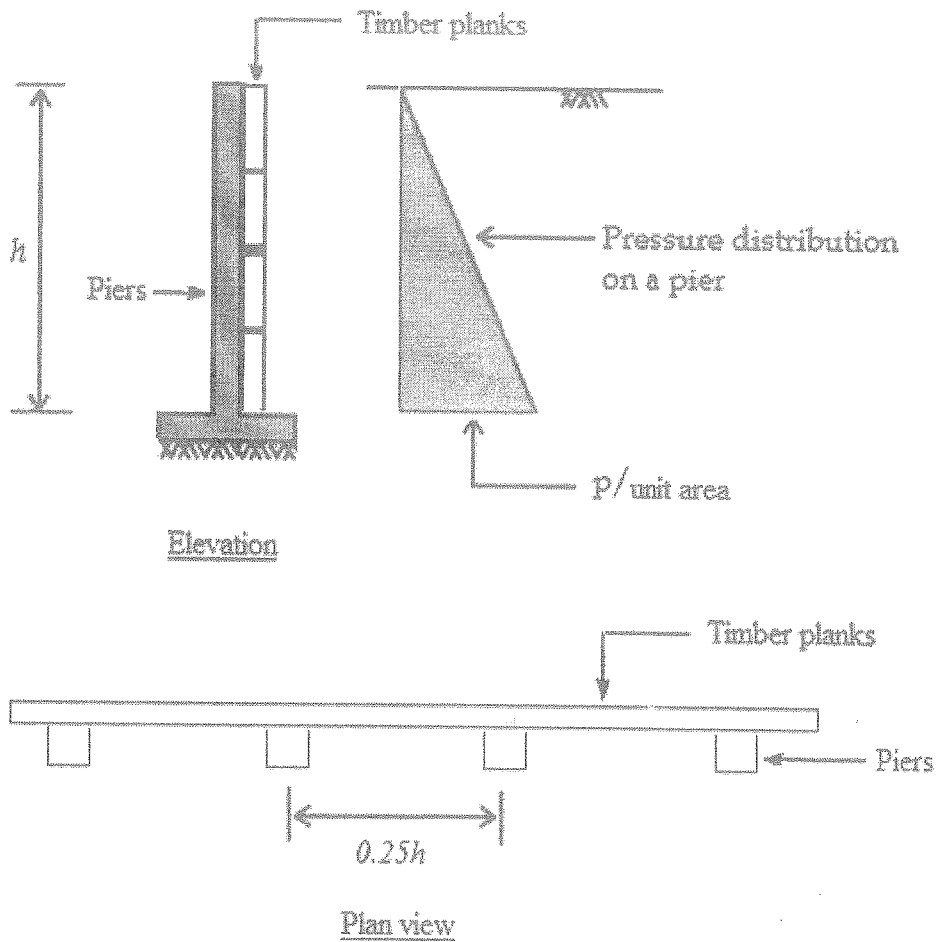

Fig. Q5
- Q5. A retaining wall is built by using timber planks and timber piers to support a soil backfill as shown in Fig Q5. The planks are supported by piers of height  $h$  and the spacing between two piers is  $h/4$ . The maximum soil pressure at the bottom of a pier is  $p$ /unit area and  $EI$  is constant for the pier.